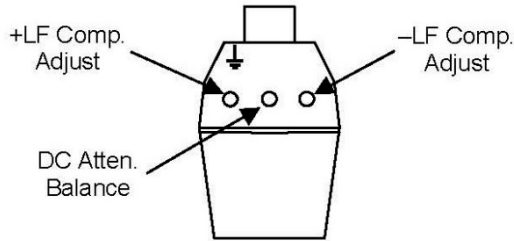

Figure 8, $\div 10$ Attenuator Adjustment Locations
11. Using the square adjustment tool, adjust the **+LF Comp** (See Figure 8) to achieve the best square corner and flat top of the displayed waveform. Note that the added capacitance of the adjustment tool may change the compensation of the waveform when it is inserted. The correct adjustment is achieved when the best corner is displayed with the adjustment tool removed.
15. The displayed waveform is the common mode feedthrough. Using the adjustment screwdriver with the flat blade, adjust the DC Attenuation. Balance (Figure 8) to minimize the amplitude of the flat portions of the displayed waveform. This adjustment only affects the flat portions of the square wave. Do not be concerned with any overshoot at the transitions.
18. Using the 0.025 in. square adjustment tool, adjust the **–LF Comp** (Figure 8) to minimize the amplitude of overshoot during the transition of the displayed waveform. It may not be possible to completely eliminate the overshoot. As with the +LF Comp adjustment, the added capacitance of the adjustment tool may change the amplitude of the waveform when it is inserted into the adjustment. The correct adjustment is achieved when the overshoot is minimized.